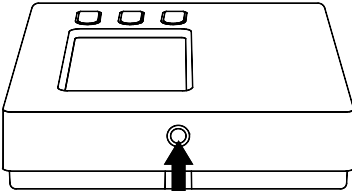

Fig. 3
**1** Push, with the help of a screwdriver, the plastic tooth located in the slot on the left side, then lift the plastic cover (Fig. 3).